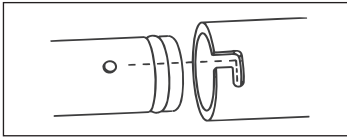

Figure 7
26. Press distal hub of catheter contamination shield over assembly cap. Twist to lock (refer to Figure 7).